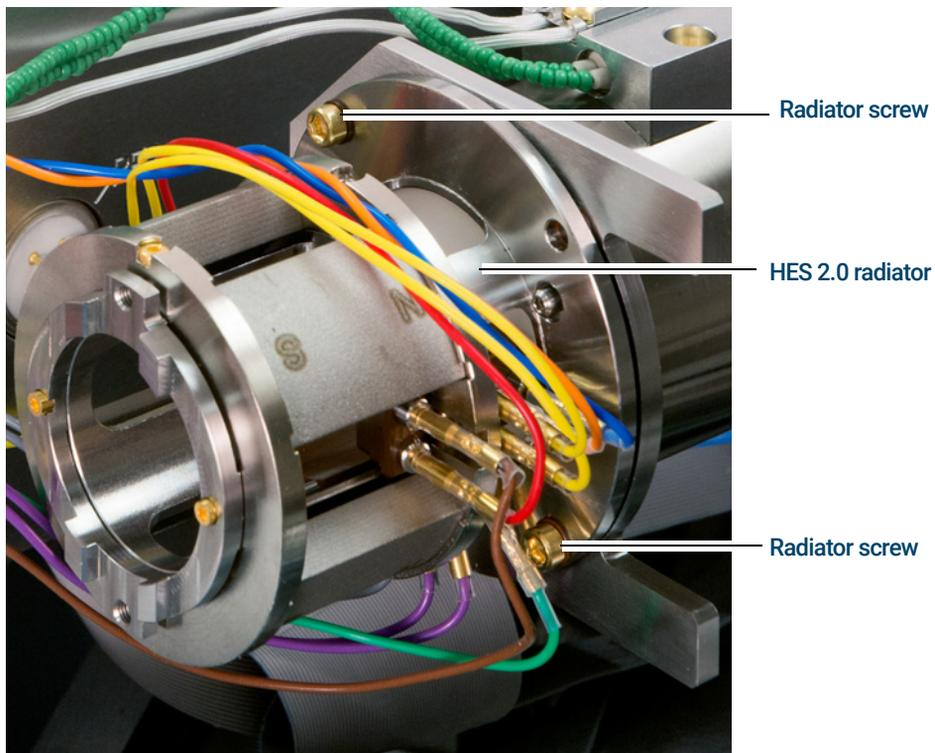

Figure 76. Removing the EI HES 2.0 radiator
- 5 Use a T10 Torx screwdriver to loosen the two screws that secure the radiator to the analyzer and place the radiator in its storage container. (See **Figure 76** on page 234.)